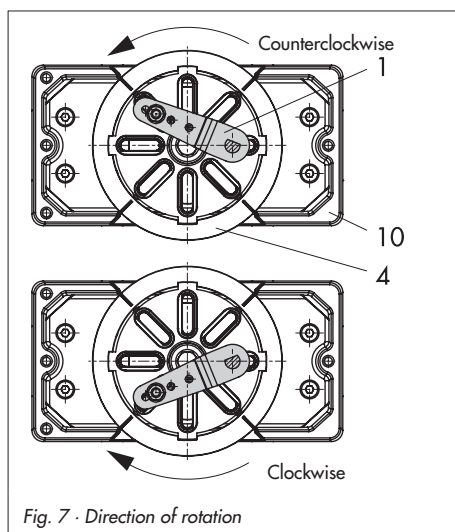

Fig. 7 · Direction of rotation
8. Place positioner on the housing (10) and screw it tight. Considering the actuator's direction of rotation, align lever (1) so that it engages in the correct slot of the coupling wheel with its follower pin (Fig. 7).